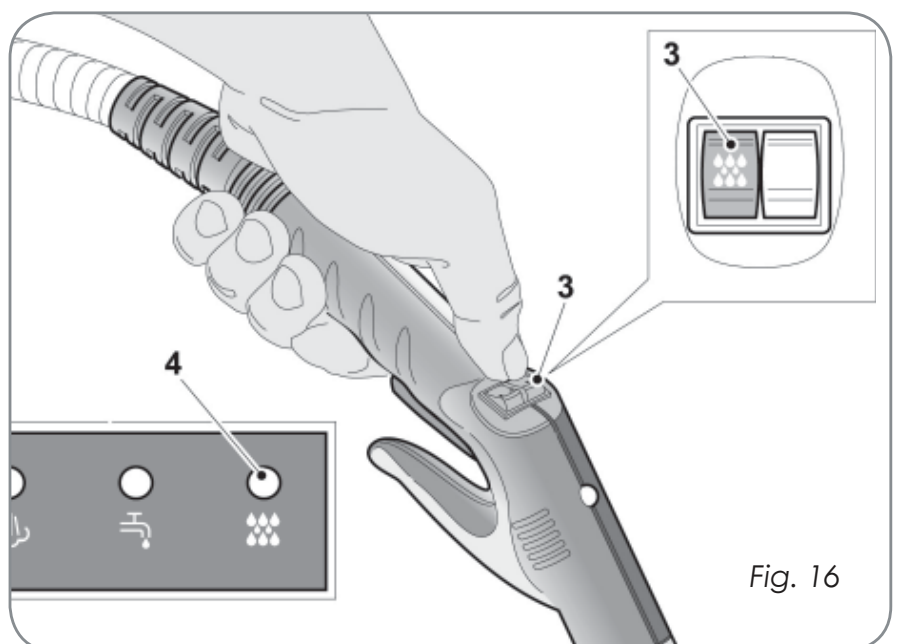

Fig. 16
Keep button pressed (3 - Fig. 16) on the handgrip to enable water supply, the yellow pilot light (4) on the dashboard will turn on.